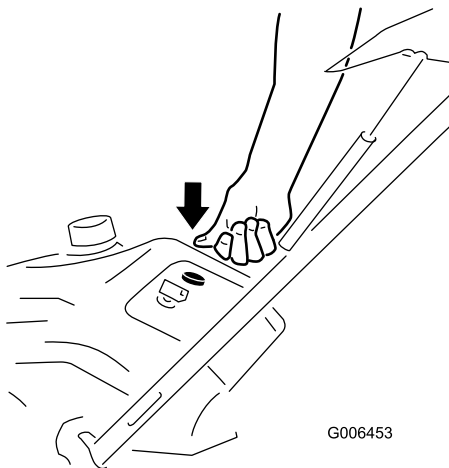

Figure 12
3. Firmly push in the primer 2 times with your thumb, holding the primer in for a second before releasing it each time (Figure 12).